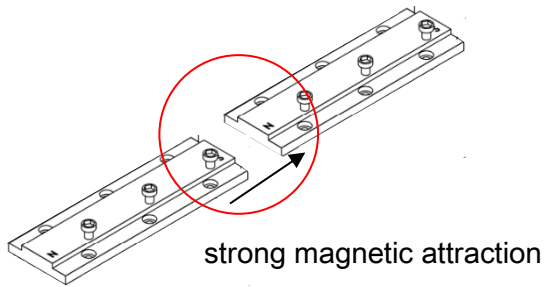

Fig. 11 Strong magnetic attraction dominates between each stator, personnel must pay attention to avoid one's hand from having a pinch injury.
3. Strong magnetic attraction between two stators must be paid attention to, in between where the handle should not be placed (refer to Fig. 11) otherwise personnel may get injured (magnetic objects or watches should also be kept at a distance from the stators).